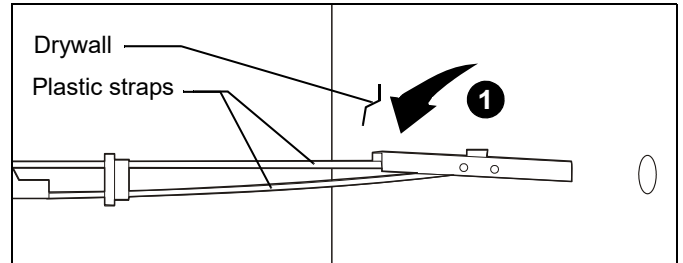

Figure 30
1. Hold metal channel on anchor flat alongside plastic straps and slide channel through hole. (See Figure 30)